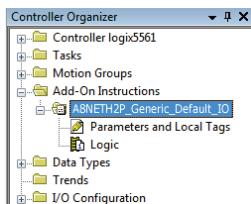

Figure 47: Generic Default IO Add-On Instruction
- 2) Right click on “Add-On Instructions” in the controller organizer view and select “Import Add-On Instruction”. Browse and import the generic default I/O add-on instruction. Refer to Figure 47.